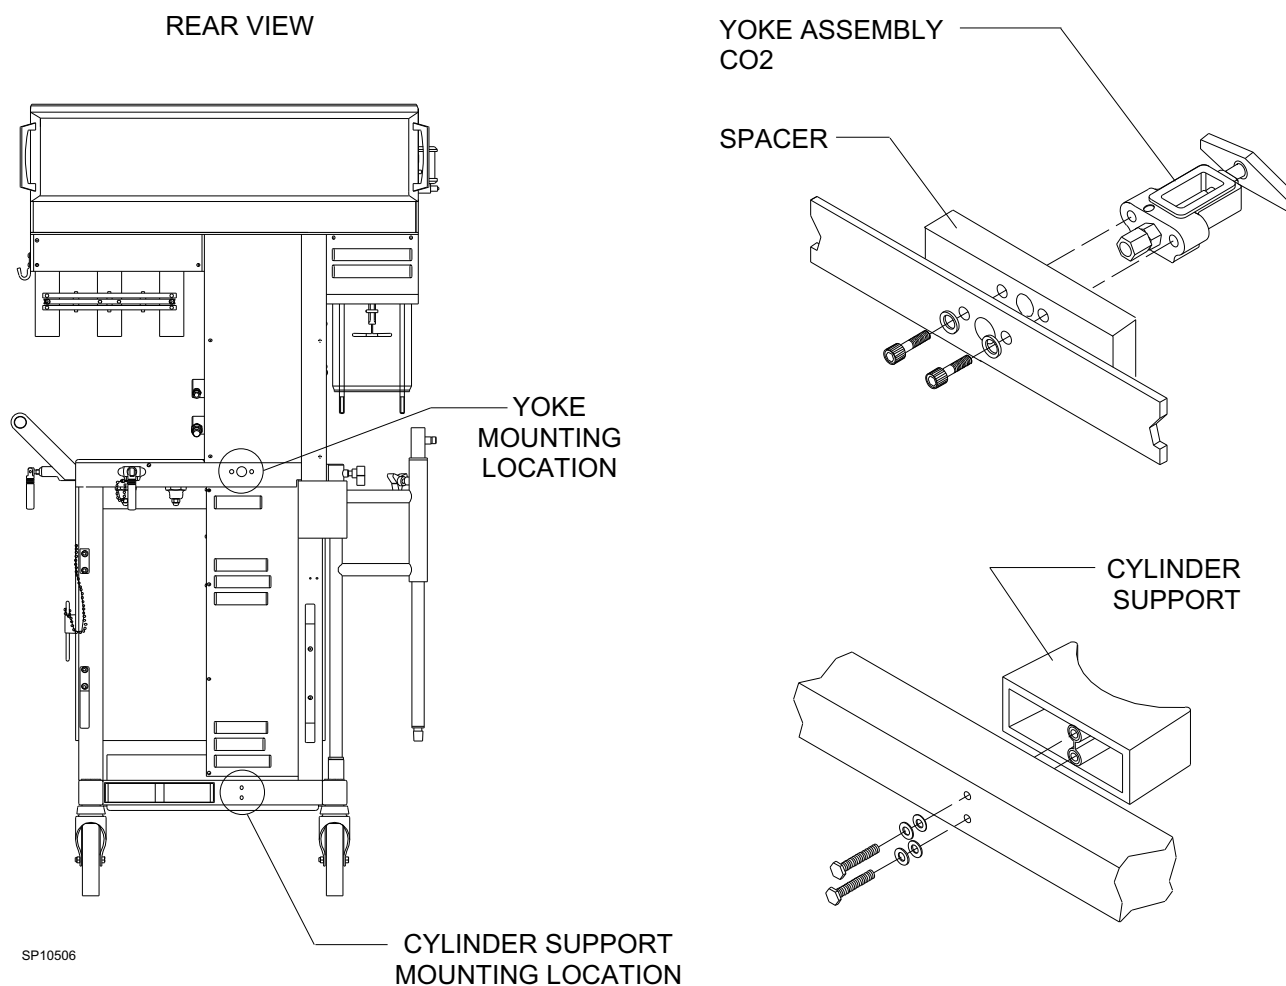

Figure 6: CO₂ YOKE AND CYLINDER SUPPORT MOUNTING LOCATIONS
58. Mount the cylinder support (P/N 4106690) on the bottom frame rail at the back of the machine (see Figure 6) using two ¼-20 x 2½ in. hex head screws (P/N HW08009 x2), lock washers (P/N HW65010 x2) and flat washers (P/N HW66004 x2).
59. Mount the CO₂ yoke assembly (consisting of P/Ns 4111792, HW06006, 1101624, 4104716, 4105929 x2, and 4112755-001), (and spacer block (P/N 1101593) on earlier models) on the upper frame rail of the machine as shown in Figure 6. Use two 5/16-24 x 1¾ in. socket head screws (P/N HW01058 x2) and lock washers (P/N HW65005 x2). Apply a CO₂ label (P/N 1101639) on this yoke.